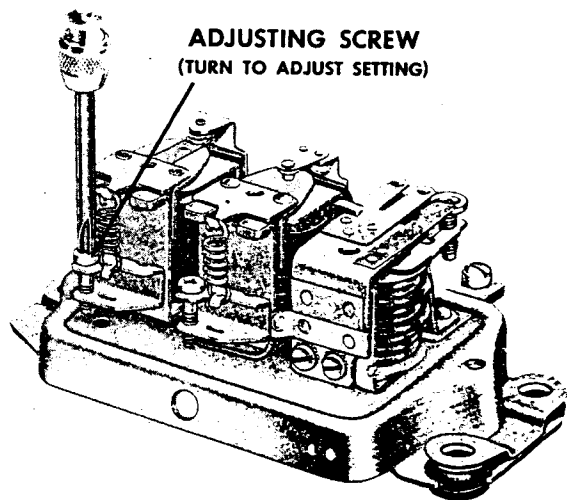

Figure 7—Adjusting voltage regulator setting.
8. To adjust voltage setting turn adjusting screw (Fig. 7). Turn clockwise to increase setting and counterwise to decrease voltage setting.
5. Adjust in same manner as described for the voltage regulator (Fig. 7).